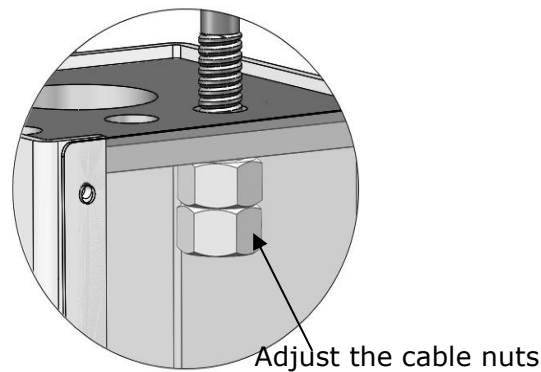

Fig. 53
1. Adjustment of sync cable (See Fig. 53)